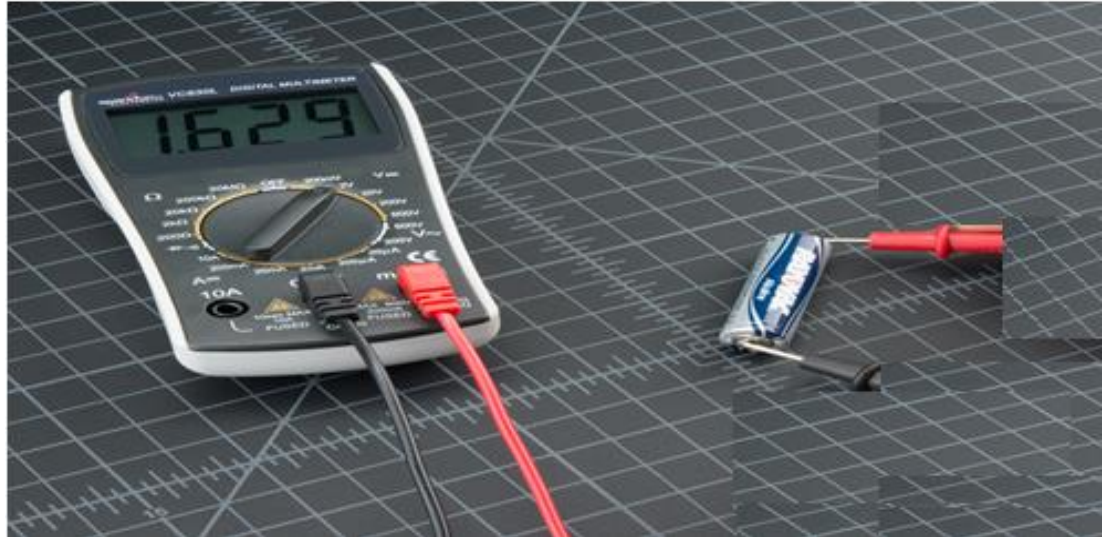

Figure 6: The value of voltage V on an AA battery
- (v) if you have a fresh battery, it should be one with a reading of around 1.5 V on the display indicating that this battery is brand new, so its voltage is exactly 1.5 V or slightly higher than that as displayed in Figure 6: